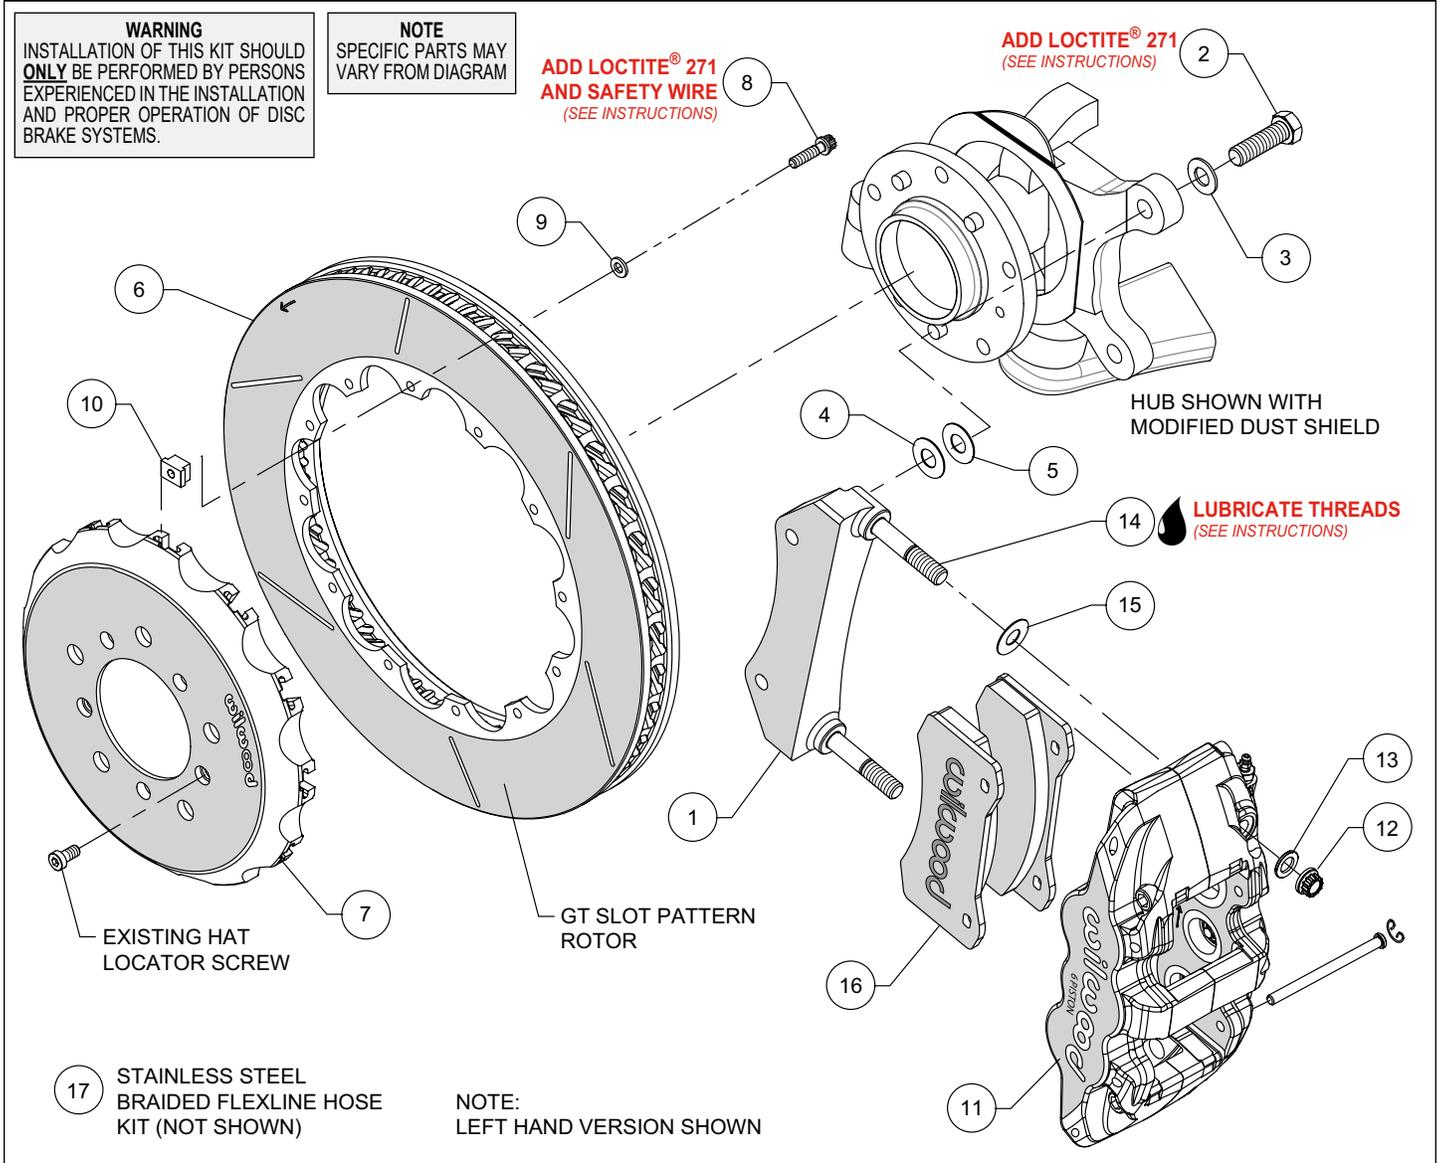
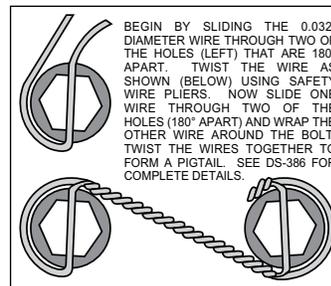

Figure 1. Typical Installation Configuration
Figure 3. Safety Wire Diagram
NOTE: Numbers in parenthesis refer to the parts list and Figure 1 on the preceding pages.
•The caliper mount bracket (1) should initially be installed with clean, dry threads on the mounting bolts. Orient the bracket as shown in Figure 1 and Photo 2, and install using bolts (2) and washers (3). Initially place one .033 thick shim (4) on each bolt between the bracket and upright, Figure 1. Temporarily tighten the mounting bolts. **NOTE:** The bracket must fit squarely against the mounting points on the upright. Inspect for interference from casting irregularities, machining ridges, burrs, etc. Later, after the caliper alignment has been checked, the mount bolts will be secured using red *Loctite*® 271.
•Orient the rotor (6) and the hat (7) as shown in Figure 1 and Photo 3. Attach rotor to hat using bolts (8), washers (9), and t-nuts (10). Follow additional instructions included with the bolt kit. Using a criss-cross pattern, apply red *Loctite*® 271 to the threads, and torque to 120 **in-lbs**. Safety wire bolts using standard 0.032 inch diameter stainless steel safety wire as shown in Figure 3. Please refer to Wilwood's data sheet DS-386 (available at www.wilwood.com/Pdf/DataSheets/ds386.pdf) for complete safety wire installation instructions.
•**NOTE:** This kit contains distinct right and left hand calipers that must be mounted in a specific direction, as described below. Lubricate the caliper mounting studs (14) with lightweight oil. Initially place one .030" thick shim (15) on each stud between the caliper and the bracket, as shown in Figure 1 and Photo 5. Mount the caliper (11) onto the bracket (1) using lock nuts (12) and washers (13), Figure 1. Ensure that the caliper is mounted so the largest pistons are at the rotor exit end of the caliper, in relation to the direction of rotor rotation. Temporarily tighten the lock nuts and view the rotor through the top opening of the caliper. The rotor should be centered in the caliper, Photo 6. If not, adjust by adding or subtracting shims (4 and/or 5) between the bracket and
- Remove the caliper (11) then remove the two pad retaining pins by carefully popping out the pin retaining clips and sliding out the pins. Insert the brake pads (16) into the caliper from the bottom, Figure 1 and Photo 7. With the friction material facing the rotor, secure the brake pads in place with the pad retaining pins and clips, Photo 8. Reinstall the caliper onto the caliper mounting bracket and temporarily tighten the lock nuts (12). Check that the top of the brake pad is flush with the outside diameter of the rotor, Photo 9. If not, adjust by adding or subtracting shims (15) between the caliper and the bracket. After the caliper pad height is set, torque the caliper lock nuts (12) to 47 ft-lb.